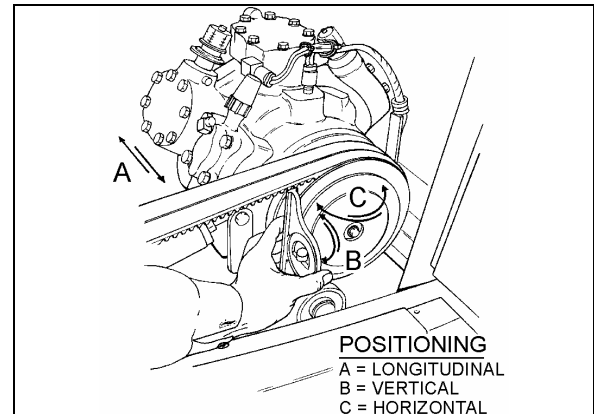

FIGURE 21: COMPRESSOR ALIGNMENT 22072
1. Rest an extremity of a straight edge of approximately 46 inches (117 cm) against the upper part of the outer face of crankshaft pulley, positioning the other end close to the compressor clutch pulley (Figs. 21 & 22).
Rest a short "angle and level indicator" on the outer side face of the crankshaft pulley, adjust the level indicator inclination at 0° and check if the compressor pulley is at same angle (Figs. 21 & 22). If it is not the same, shim under the appropriate pillow block in order to obtain the correct angle.